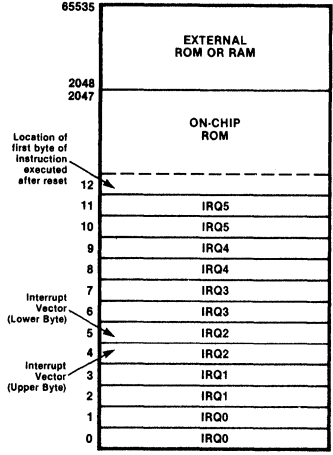

Figure 4. Program Memory Map
**Program Memory.** The 16-bit program counter addresses 64K bytes of program memory space. Program memory can be located in two areas: one internal and the other external (Figure 4). The first 2048 bytes consist of on-chip mask-programmed ROM. At addresses 2048 and greater, the Z8601 executes external program memory fetches.